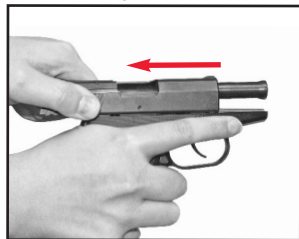

Figure 13
10. Pull the slide fully rearward with your support hand. See Figure 13.